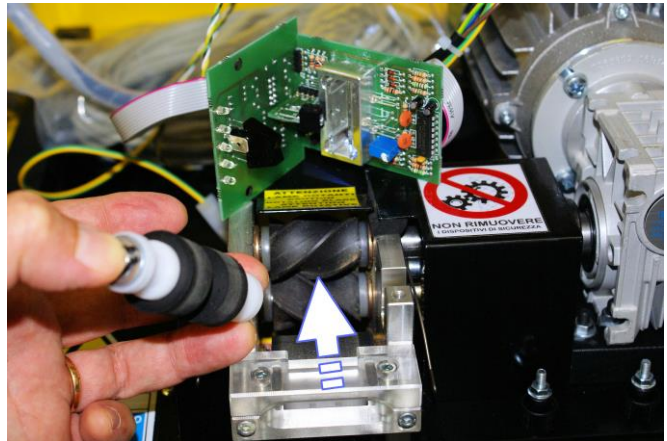

Figure 2
- Clean, with a soft brush (or compressed air) the inside of the passing tickets hole on the sensor board (Fig.2).